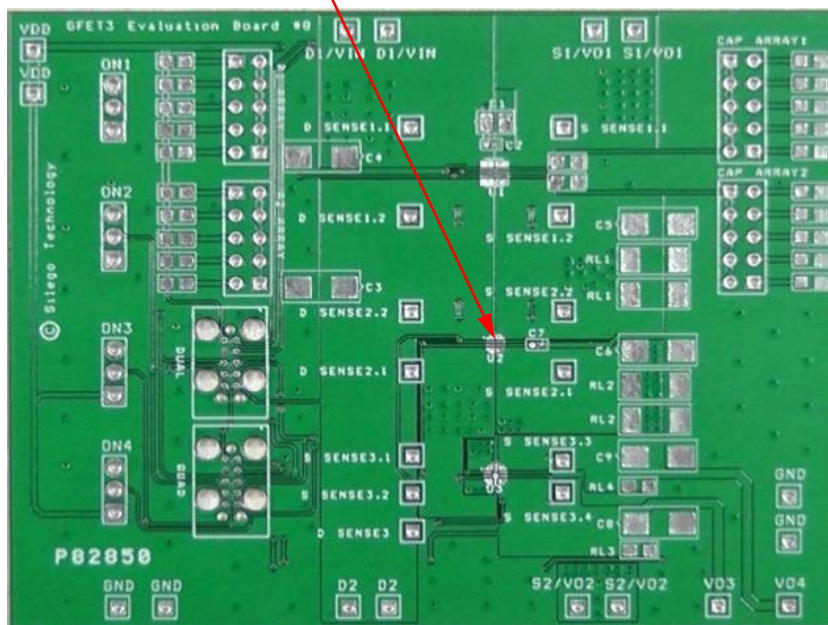

Figure 1. SLG59M1446V Evaluation Board.
2. Since the D1, D2, S1 and S2 pins dissipate most of the heat generated during high-load current operation, it is highly recommended to make power traces as short, direct, and wide as possible. A good practice is to make power traces with absolute minimum widths of 15 mils (0.381 mm) per Ampere. A representative layout, shown in Figure 1, illustrates proper techniques for heat to transfer as efficiently as possible out of the device;
A GFET3 Evaluation Board for SLG59M1446V is designed according to the statements above and is illustrated on Figure 1. Please note that evaluation board has D_Sense and S_Sense pads. They cannot carry high currents and dedicated only for RDS_{ON} evaluation.